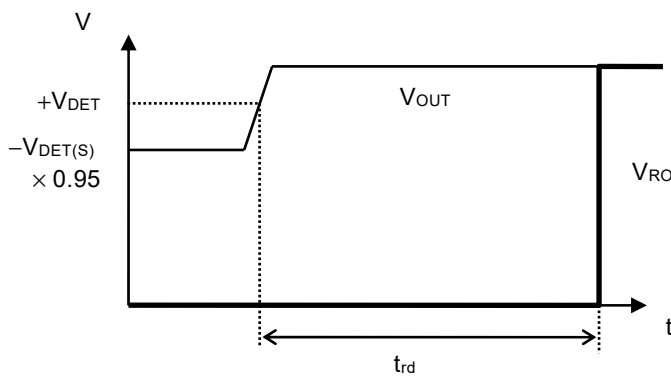

Figure 5 Release Delay Time
*3. The time from when V_{OUT} exceeds $+V_{\text{DET}}$ to when the RO pin output inverts (Refer to **Figure 5**). This value changes according to the release delay time and monitoring time adjustment capacitor (C_{DLY}).